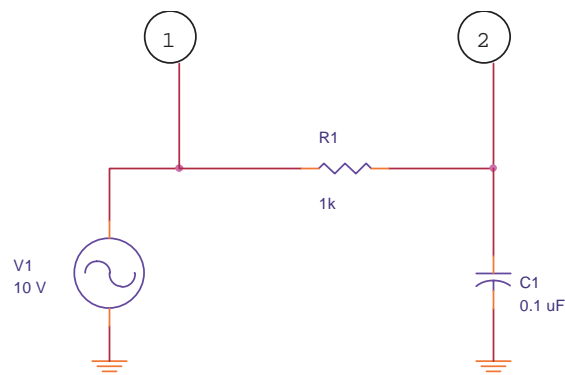

Figure 1: A Test Circuit for Measurement
1. Connect the circuit of Figure 1 below. Pay particular attention to the placement of oscilloscope probes. Use standard 1:1 (BNC-to-alligator clip) connections to the scope.